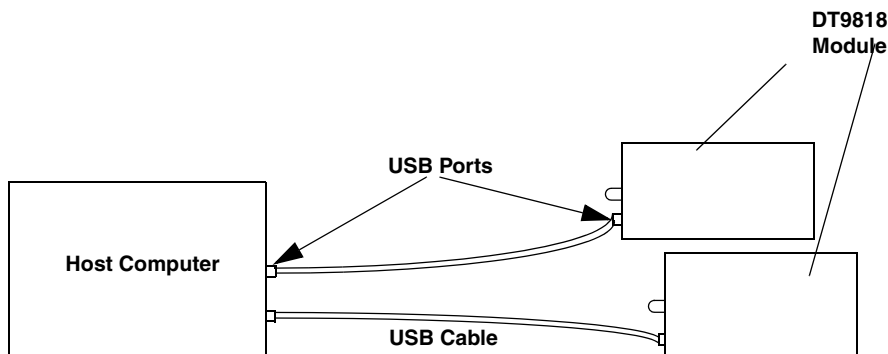

Figure 2: Attaching the Module to the Host Computer
3. Attach the other end of the USB cable to one of the USB ports on the host computer, as shown in Figure 2.